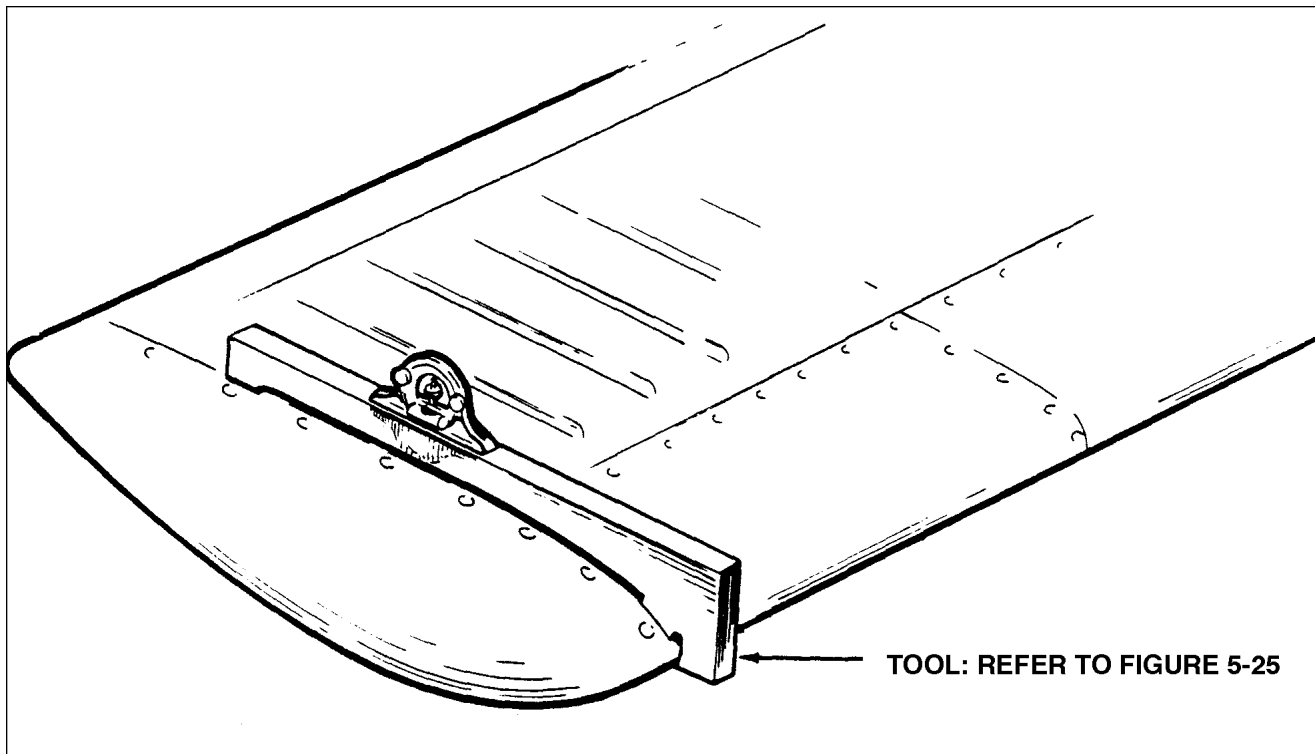

Figure 5-12. Stabilator Rigging Tool
1. Check the stabilator travel by placing a rigging tool on the upper surface of the stabilator as shown in Figure 5-12. (This tool may be fabricated from dimensions given in Figure 5-25.)